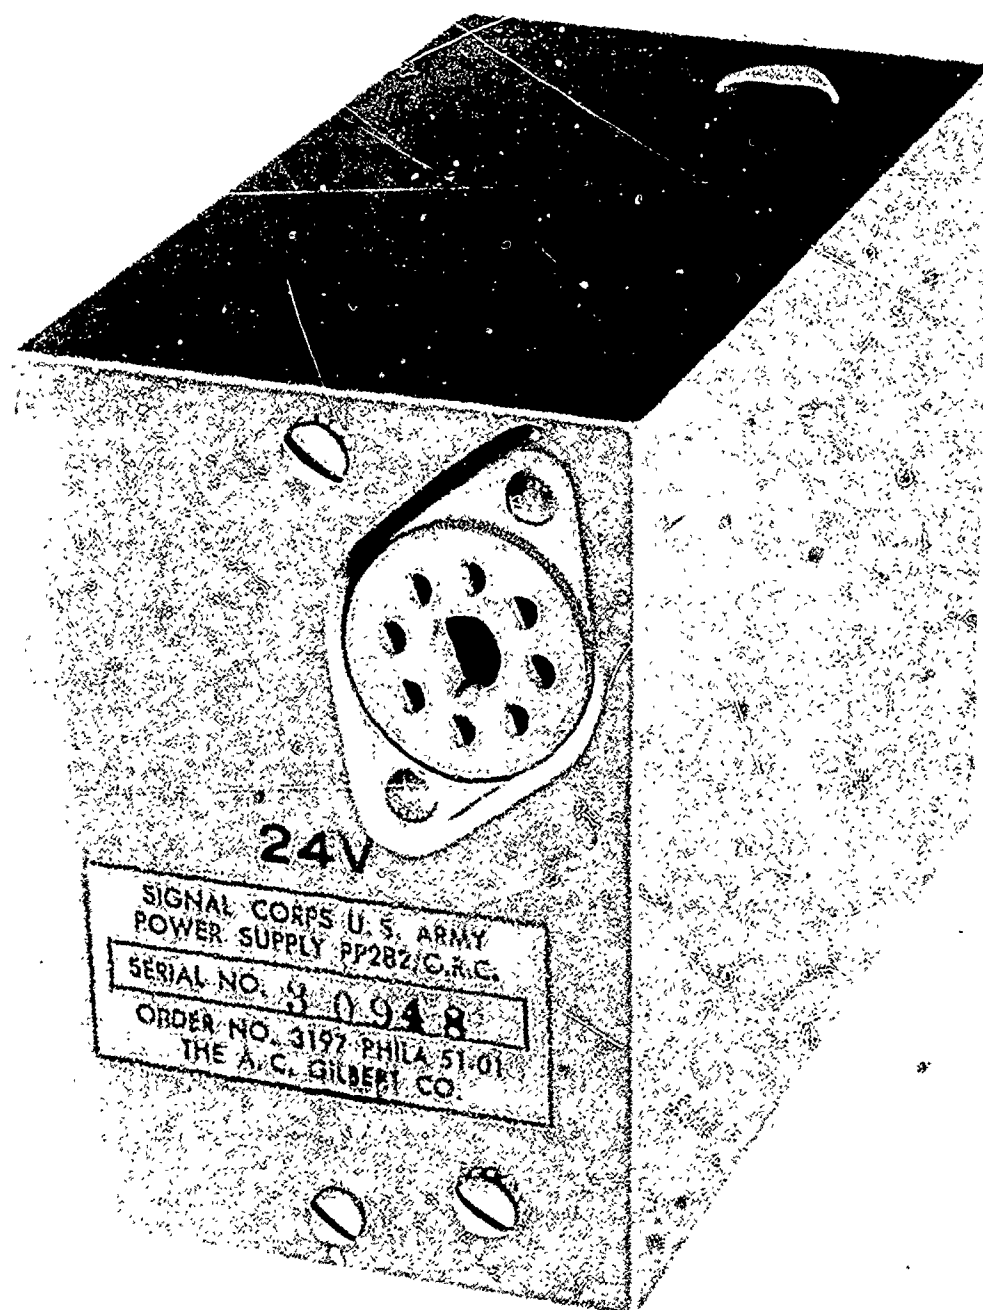

Figure 4-14. Power Supply PP-282/GRC.
(1) Furnishes power to the receiver-transmitter RT-70/GRC. The amplifier has an internal power supply designed to convert the power delivered through the mount to usable voltage for the RT-70/GRC. The internal Power Supply used is the PP-281/GRC for 12 volt operation or the PP-282/GRC for 24 volt operation (Fig. 4-14).
(2) Amplification of audio signals. Signals received by the various receivers are fed through the mount to the amplifier where they are amplified. At the AUDIO connector on the amplifier all incoming signals to the set may be monitored.
(3) Provides interphone facilities such as the one required by the members of the crew of an armored vehicle.